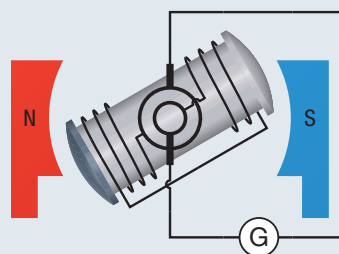

Figure 16
4. The generator in **Figure 16** is rotated counterclockwise. Determine the polarity of the magnetic field on the armature, the direction of induced current in the coil, and the direction of current in the external circuit. **T/I**